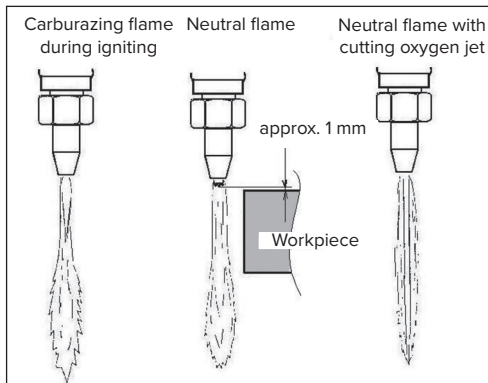

Fig.4: Flame adjustment
4.2.3. Open shortly the cutting oxygen valve to see correct adjustment of neutral flame and close it afterwards (see also Fig.4).